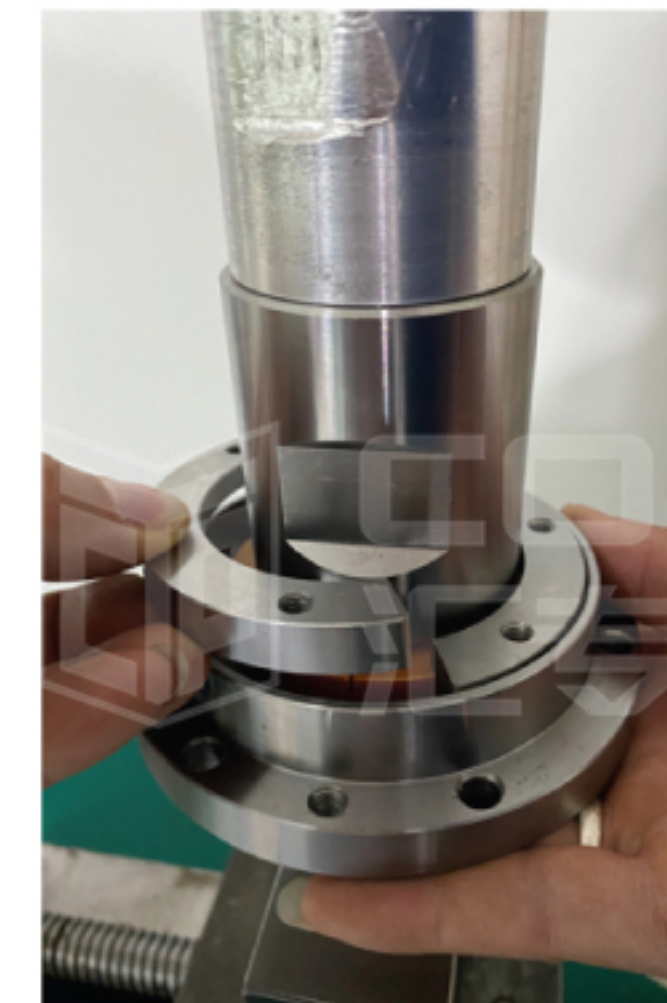
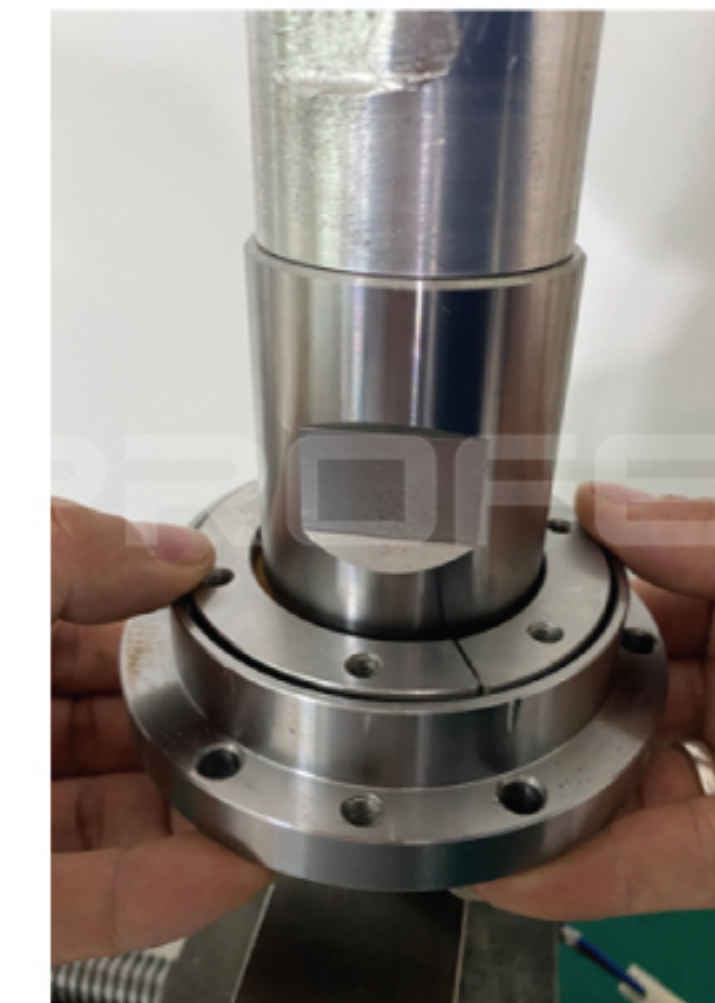

Figure 7
Figure 8
(6) Put the semi-circular steel press block in the flange and adjust the position. (As shown in Figure 7 and Figure 8).